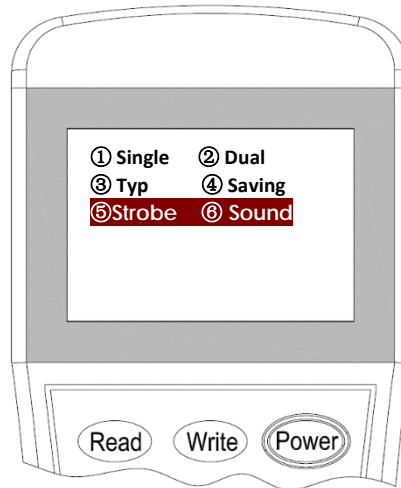

Figure 13
3. Input the **"5"** for **Strobe** type or **"6"** for **Sounder** type, then press **"Write"** to change the setting into the desire mode (Figure 13).